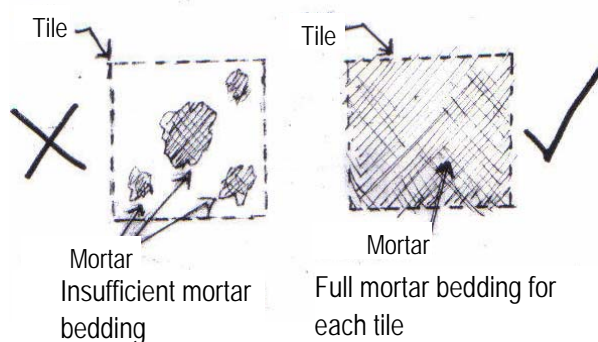

Fig 22 - **Wall tiling**
- Made sure that there are no voids in the cement rendered or plastered bedding for each tile (See fig. 22)